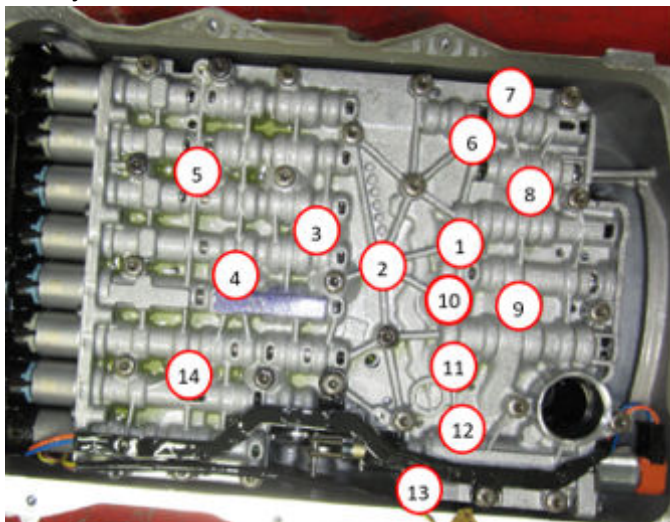

Fig. 12
17. Remove the valve body assembly bolts in the order shown and remove the valve body Fig. 12.